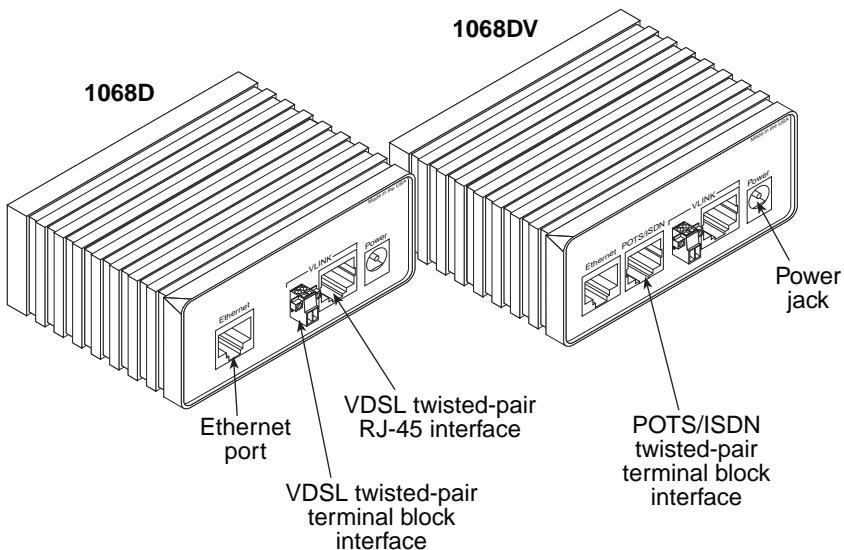

Figure 2. Model 1068 standalone rear panel
- Note** See Figure 2 for the standalone unit’s rear panel arrangements.